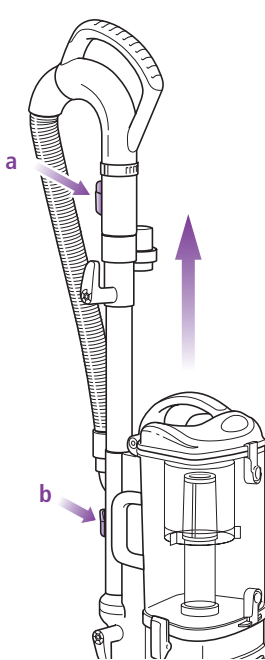

Fig. 15
- 2 Press the handle release button (a) and pull the handle up or press the extension wand release button (b) and pull the extension wand up. (Fig. 15)
- 1 Press the extension wand release button and pull the extension wand up. (Refer to page 10, Fig. 15-b)